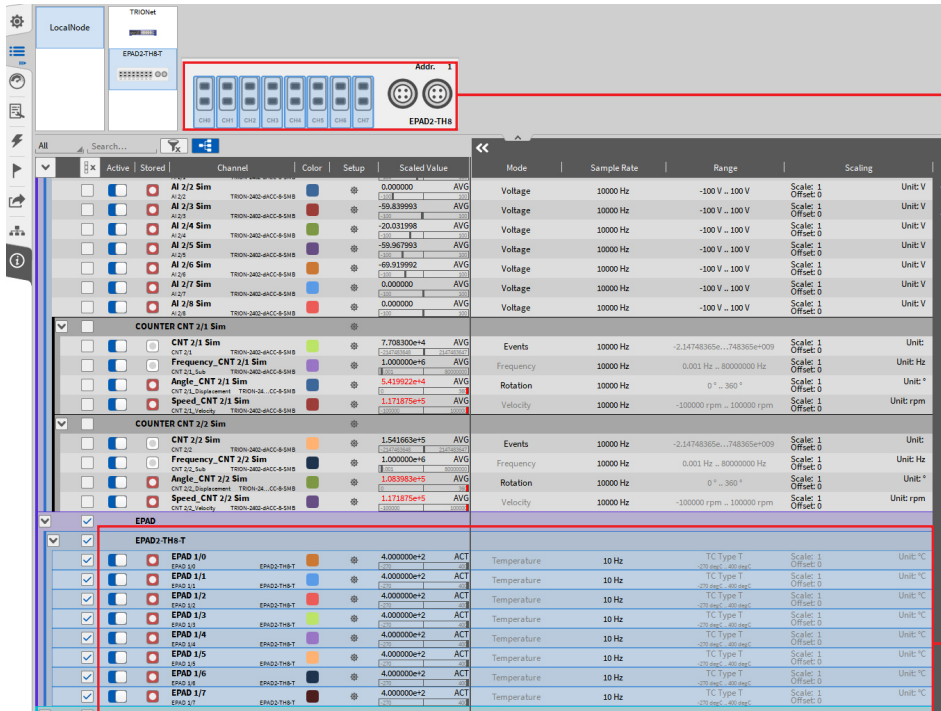

Fig. 18: XR channel list
- ▶ The XR module(s) are now visible in the system overview at the top of the *Channel List* ① and are available in a separate EPAD channel section in the *Channel List* ② (Fig. 18).